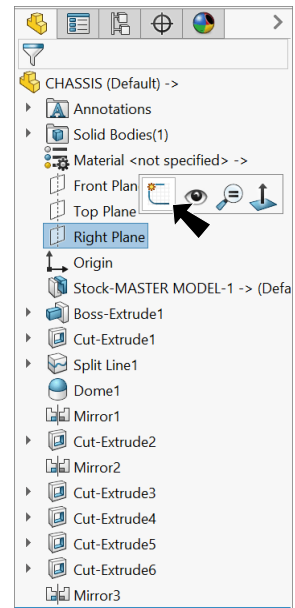

Fig. 70
Step 1. Click **Right Plane**  in the Feature Manager and click **Sketch**  on the context toolbar, **Fig. 70**.